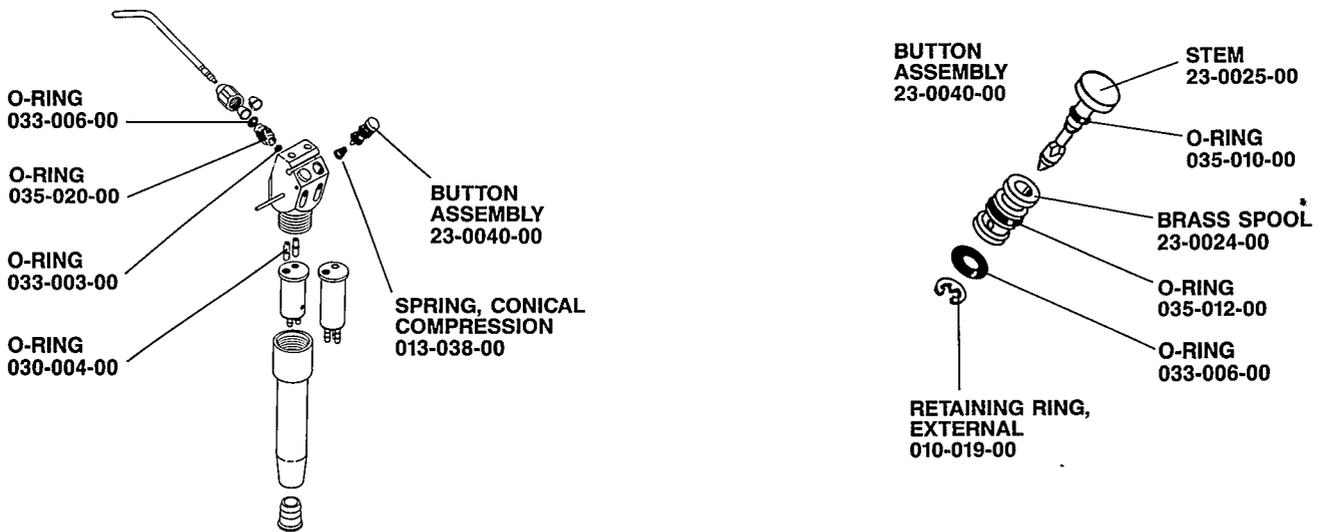

FIGURE 50
1. Leakage around the button or tip can be repaired by installing a new button assembly (refer to Figure 50).